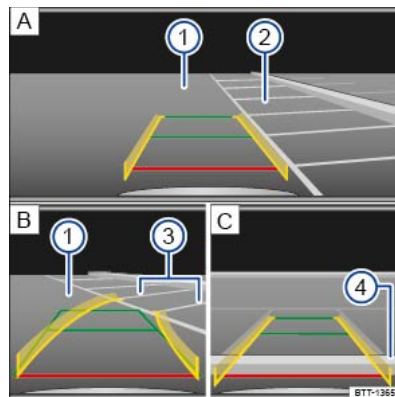

Fig. 155 Infotainment system screen display: parking using the rear view camera system, mode 1.
Key to ⇒ Fig. 155:
- Position the vehicle in front of the parking space ⇒ Fig. 155 ② **A**.
- Steer so that the yellow lines ③ lead into the parking space **B**. The green and yellow lines must be aligned with the side limit lines ③.
- Stop when the red line reaches the rear limit ④ **C**.